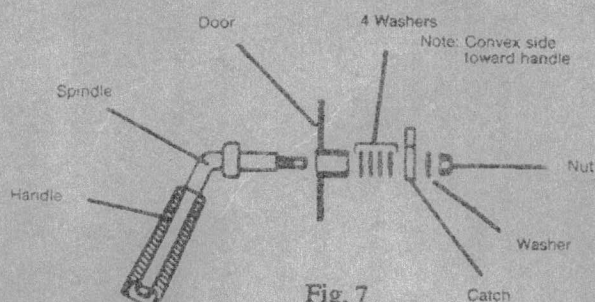

Fig. 7
1. The handle should be fitted so that it is at or near the 3 o'clock position when closed. This is best achieved by holding the handle in this position and fitting the catch to the spindle with the catch in its lowest position. Refer Figure 7.